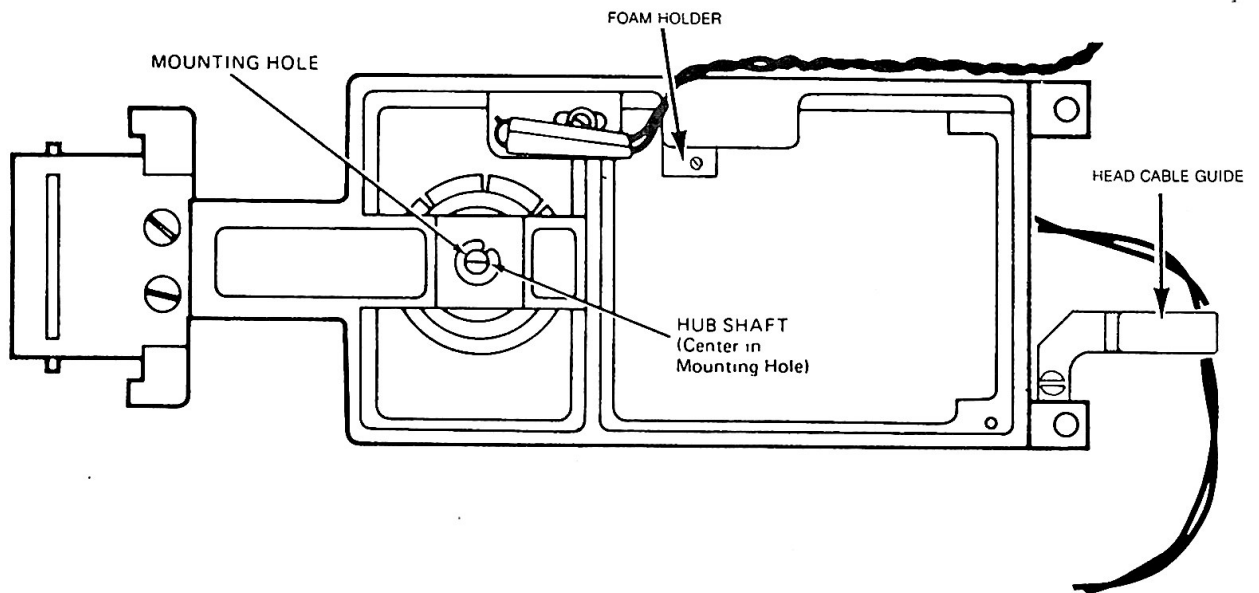

FIGURE 28. HUB FRAME ADJUSTMENT
- c. Position the hub frame until the hub shaft is centered in its mounting hole in the hub frame. Reference figure 28. Now tighten the mounting screws for the hub frame pivot springs.
- d. When installing a new assembly, insure the detector mounting block is flush against the side of the hub frame. Reference Figure 28.